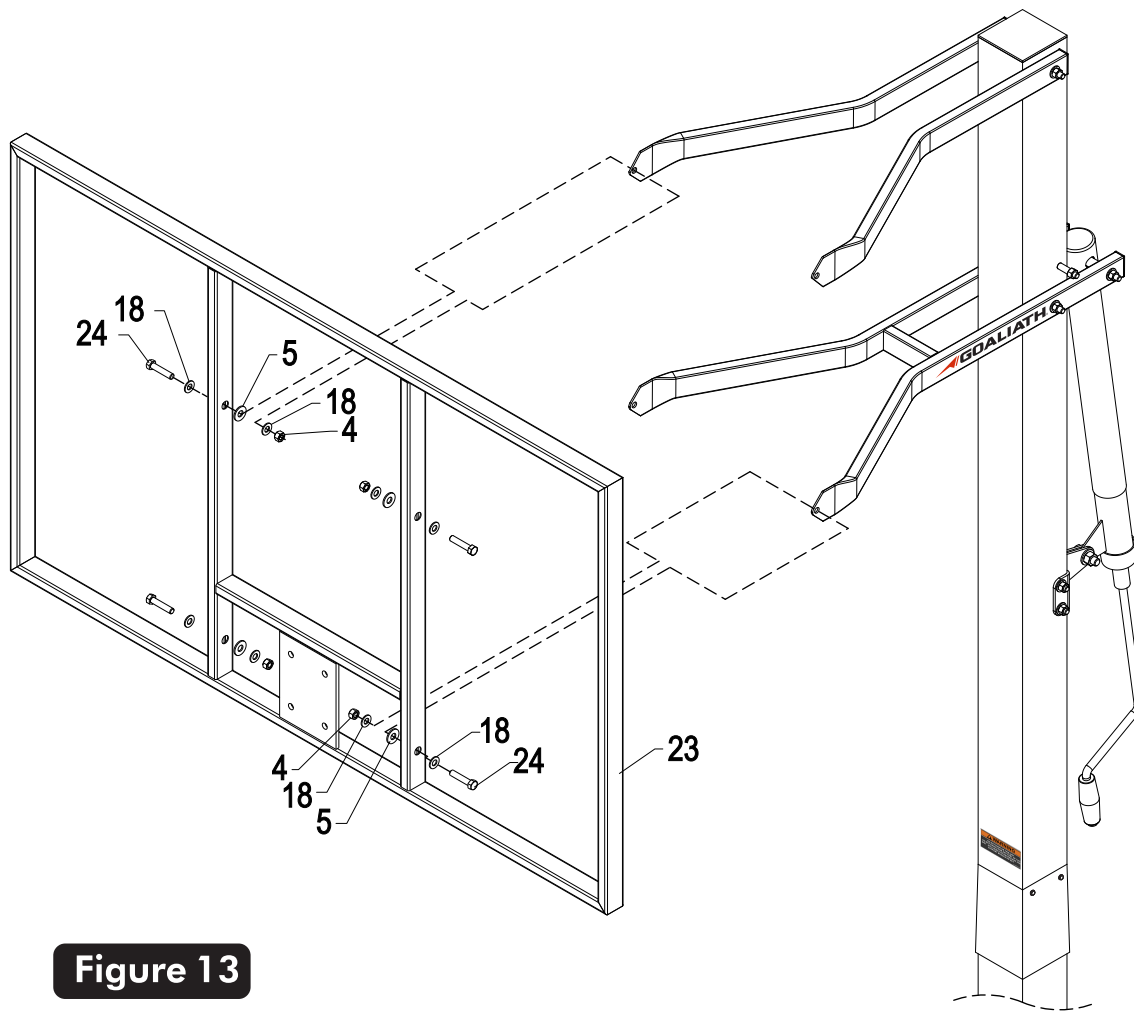

Figure 13
21. With at least two capable people, raise the backboard assembly up and have the third attach Lower Board Arms to lower mounting tubes on backboard using two bolts (#24), two plastic washers (#5), four washers (#18) and two lock nuts (#4). See **Figure 13**.
22. Attach Upper Board Arms to upper mounting tubes on backboard using two bolts (#24), two plastic washers (#5), four washers (#18) and two lock nuts (#4). See **Figure 13**.